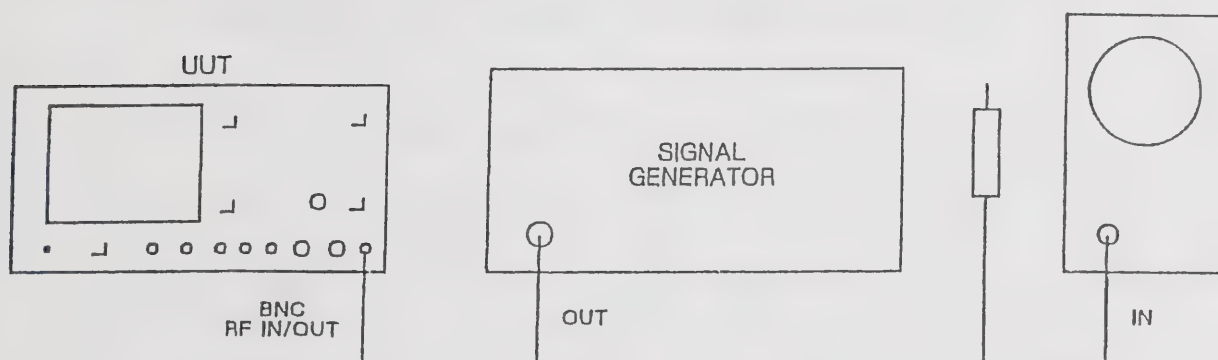

Fig. 3-2 Test equipment connections for adjusting R11 and R27 on AA1
- (1) Connect the equipment as shown in Fig. 3-2.
- (2) Set the UUT to TRANSMITTER TEST, BNC input socket.
- (3) Set the signal generator to a carrier frequency of 55.6 MHz, RF level 0 dBm, modulation off.
- (4) Connect the oscilloscope probe to the IF OUTPUT at PLC. Adjust R11 for minimum distortion (i.e. cleanest sinewave).
- (3) Set the signal generator to a carrier frequency of 300 MHz, RF level 13 dBm, modulation off.
- (4) Monitor TP1 on the oscilloscope and adjust R27 to reduce the height of the pulse spikes to a minimum. The spikes should be less than 150 mV in either the positive or negative direction.